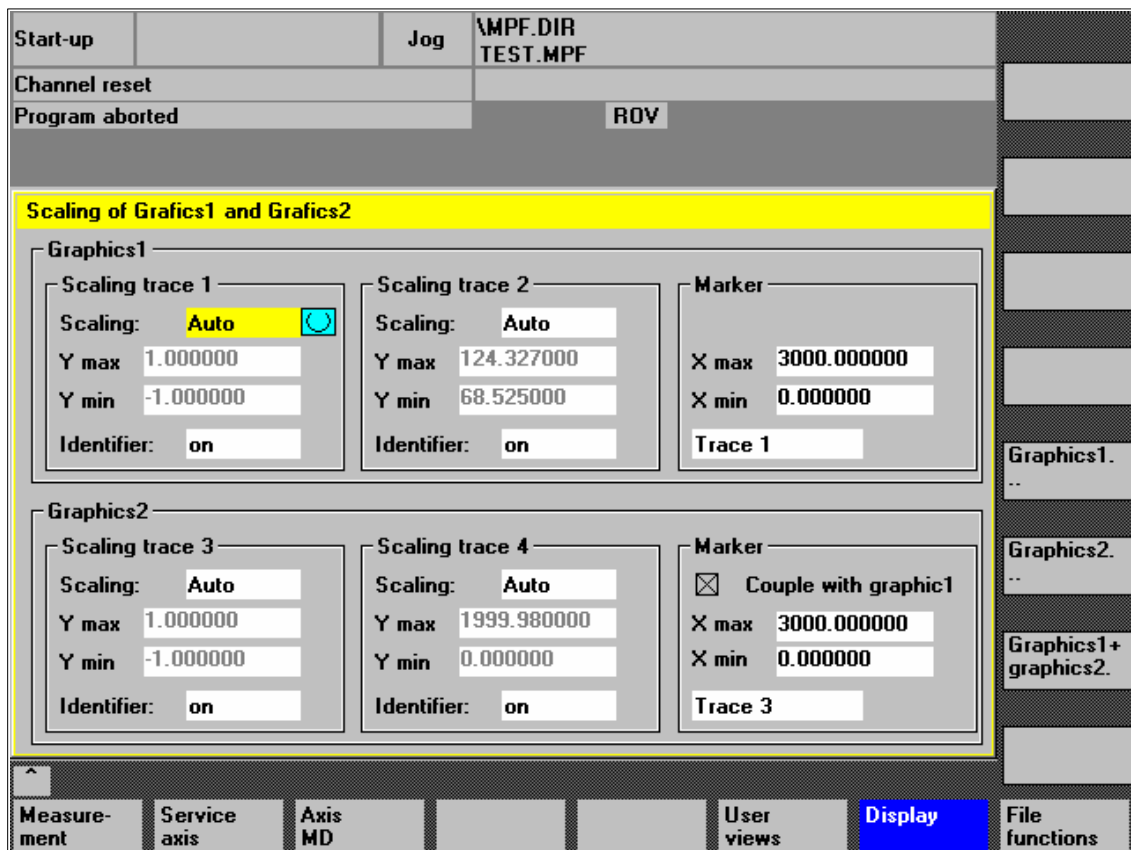

Fig. 15-11 Menu: Scaling of graphics
- Switching over the display from double to single graphics and vice versa (this function also exists in the scaling menu Fig. 15-11, Page 15-457)